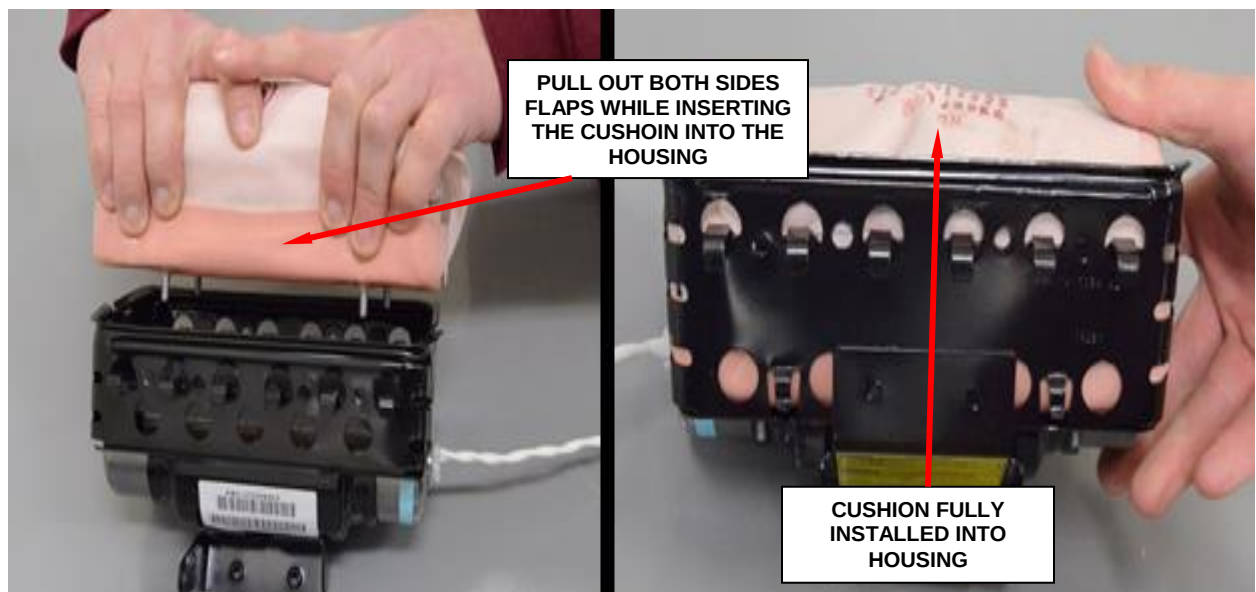

Figure 122 - Side Flaps Must Be Held Out
- f. Slide the inflator out of the passenger airbag module (Figure 122).